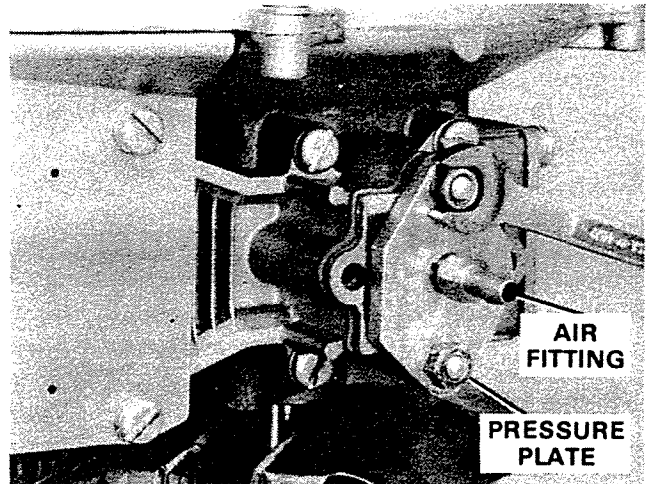

Figure 4. Installing Plate for Pressure Testing.
- B. Remove carburetor, install a plate with a hose fitting for pressure tester or manometer. Figure 4.